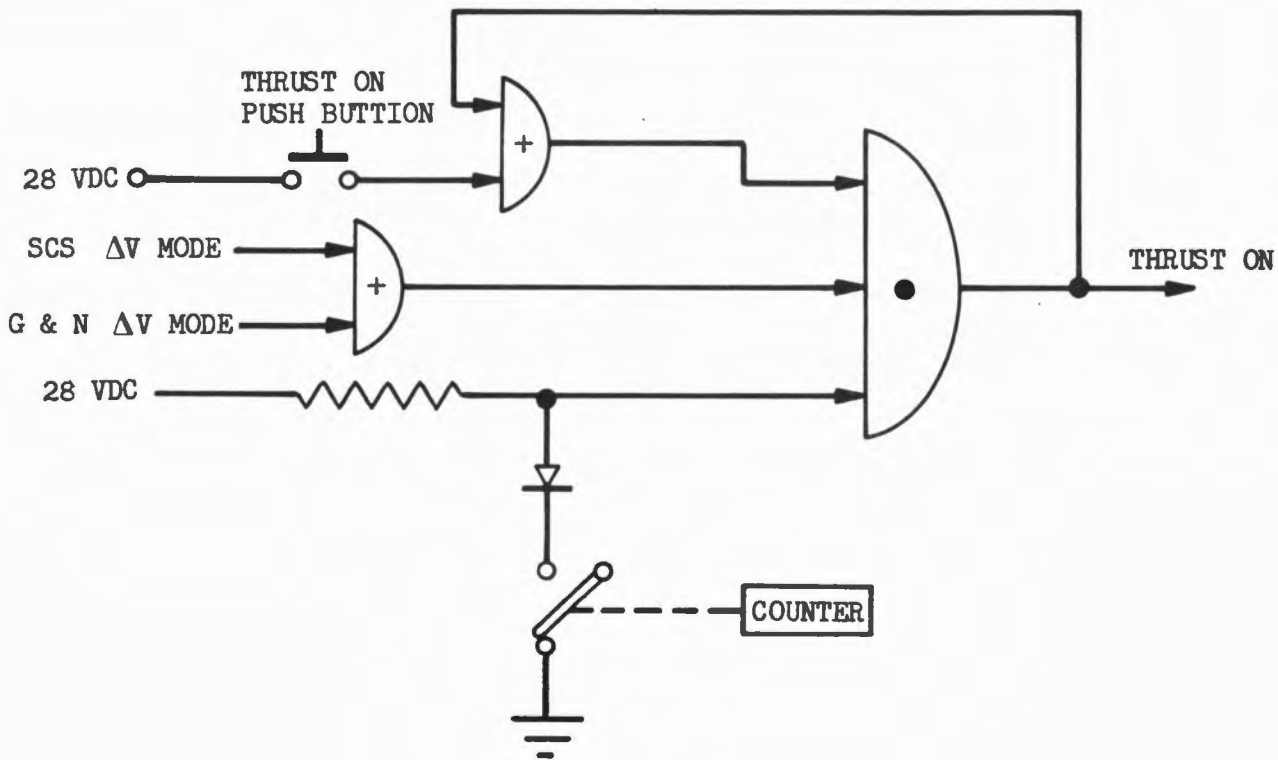

Figure 5-24. SCS Thrust On Logic
5.2.2.3.1 The logic for SCS "thrust on" is simpler than that for the G&N "thrust on" because it is always manually initiated, (see Figure 5-24). The interlock with ullage (either normal or direct) is unnecessary and the "or", "and" gate input is eliminated. Since a momentary pushbutton input signal is used, a latching circuit from the "thrust on" amplifier is returned to maintain the thrust on signal. Thrust off is accomplished when the Delta V remaining counter reaches zero and opens one of the SCS "and" gate inputs.